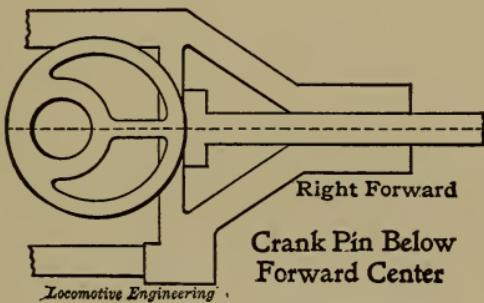

FIG. 54.
slipped one in the same relative position towards the pin. Or if engine is moved till the spoke of the good eccentric for that motion is on the exact center the slipped one (for the same motion) should be moved to the exact quarter; the right-hand one should always lead just a quarter of a turn ahead of the left one for the same motion. For instance, if the spoke or bridge of eccentric-cam that has not slipped points the same way as the center line of frame, the other one for same motion (on opposite side) should point the same way as edge of shoe between driving-box and jaw of frame. [See Figs. 54 and 55.] Or if engine can
*A.*—They are at right angles with each other. The right-hand one leads or passes the forward center when the left-hand one is on the top quarter. [See Figs. 54 and 55.]